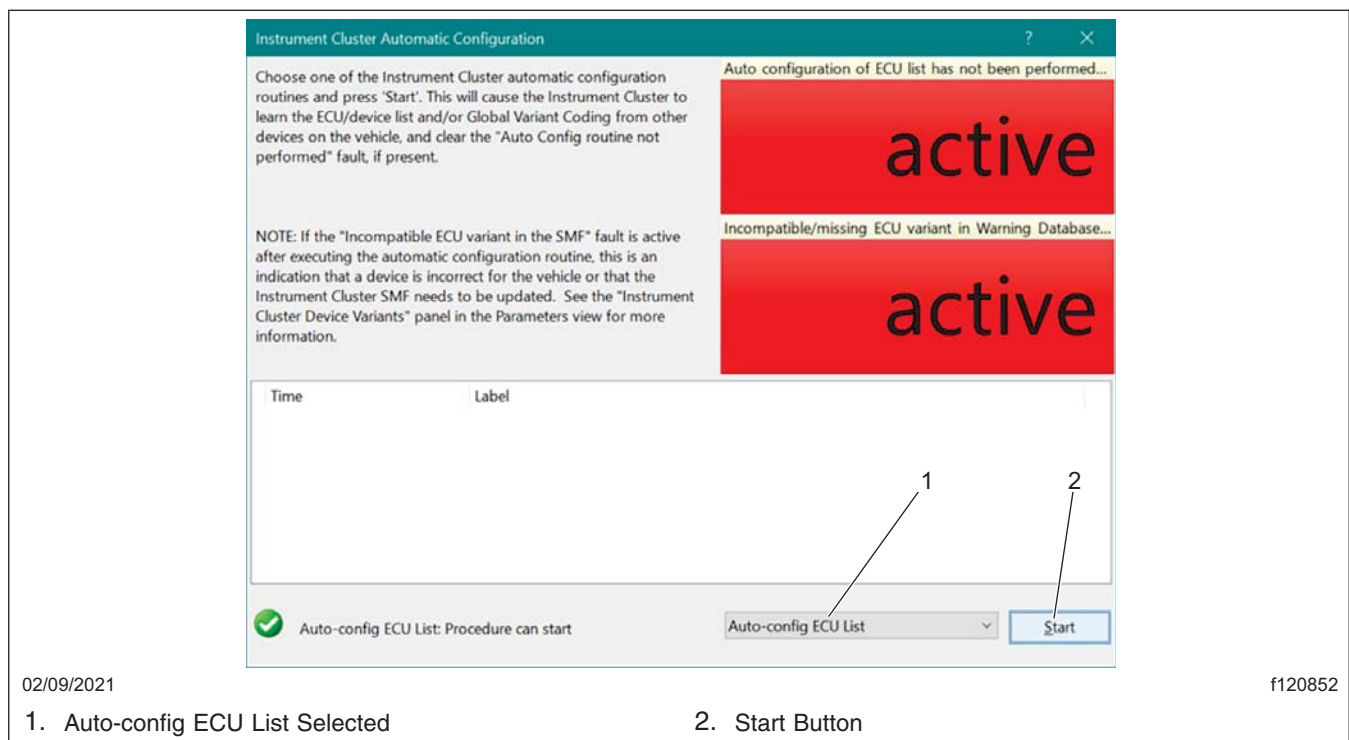

Fig. 14, 'Instrument Cluster Automatic Configuration' Window
15. Verify that the menu selection at the bottom of the window is 'Auto-config ECU List' as shown in Fig. 14, and select 'Start.'